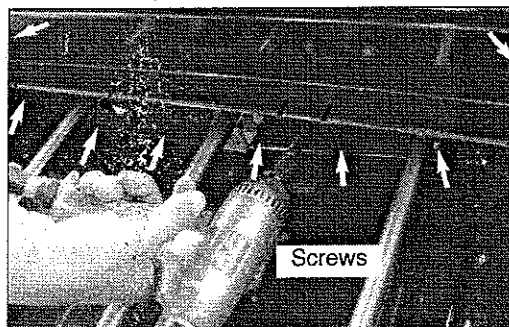

Fig 5
5. Remove the (8) screws holding the front heat shield in place. (See Fig. 5)